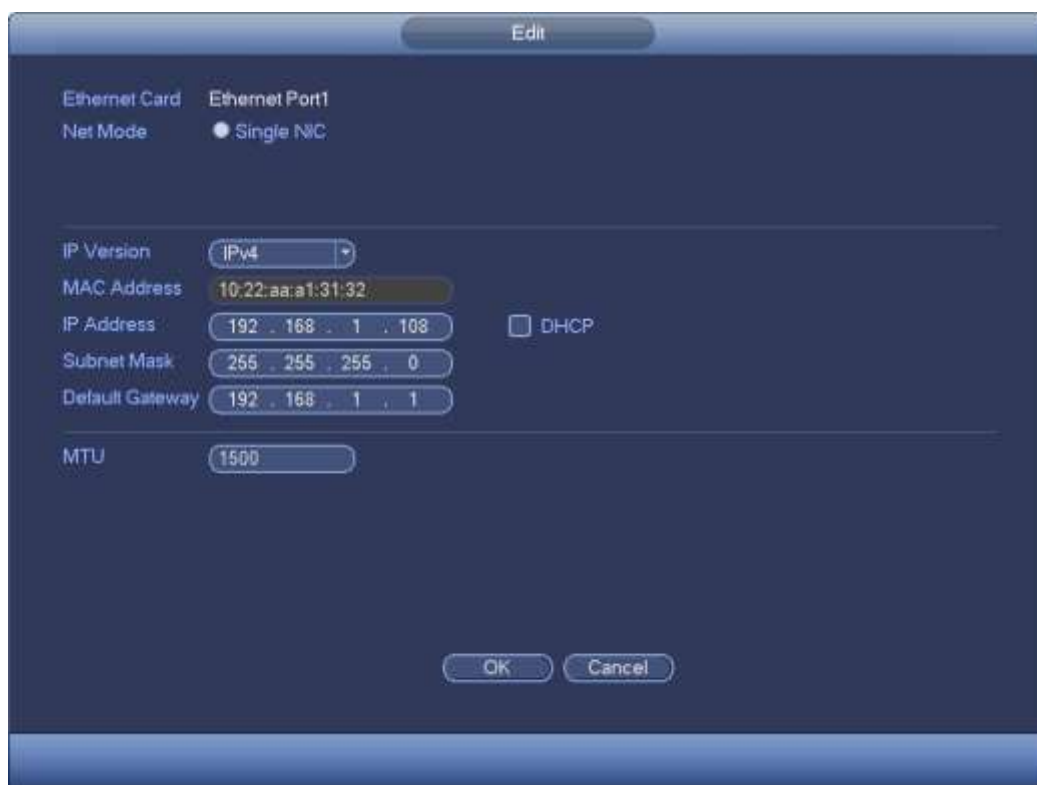

Figure 4-16
Step 2 Click , device display edit interface. See Figure 4-16.